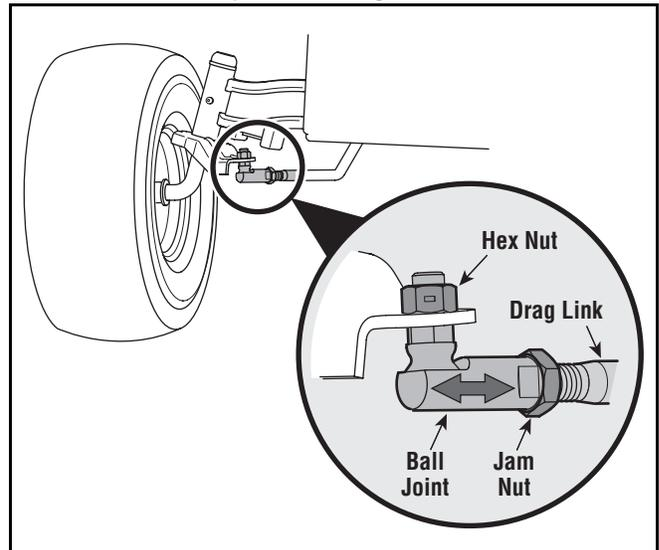

Figure 11
- Loosen the jam nut found on the drag link at the rear of the ball joint. See Figure 11.
- Remove the hex nut on the top of ball joint. See Figure 11.